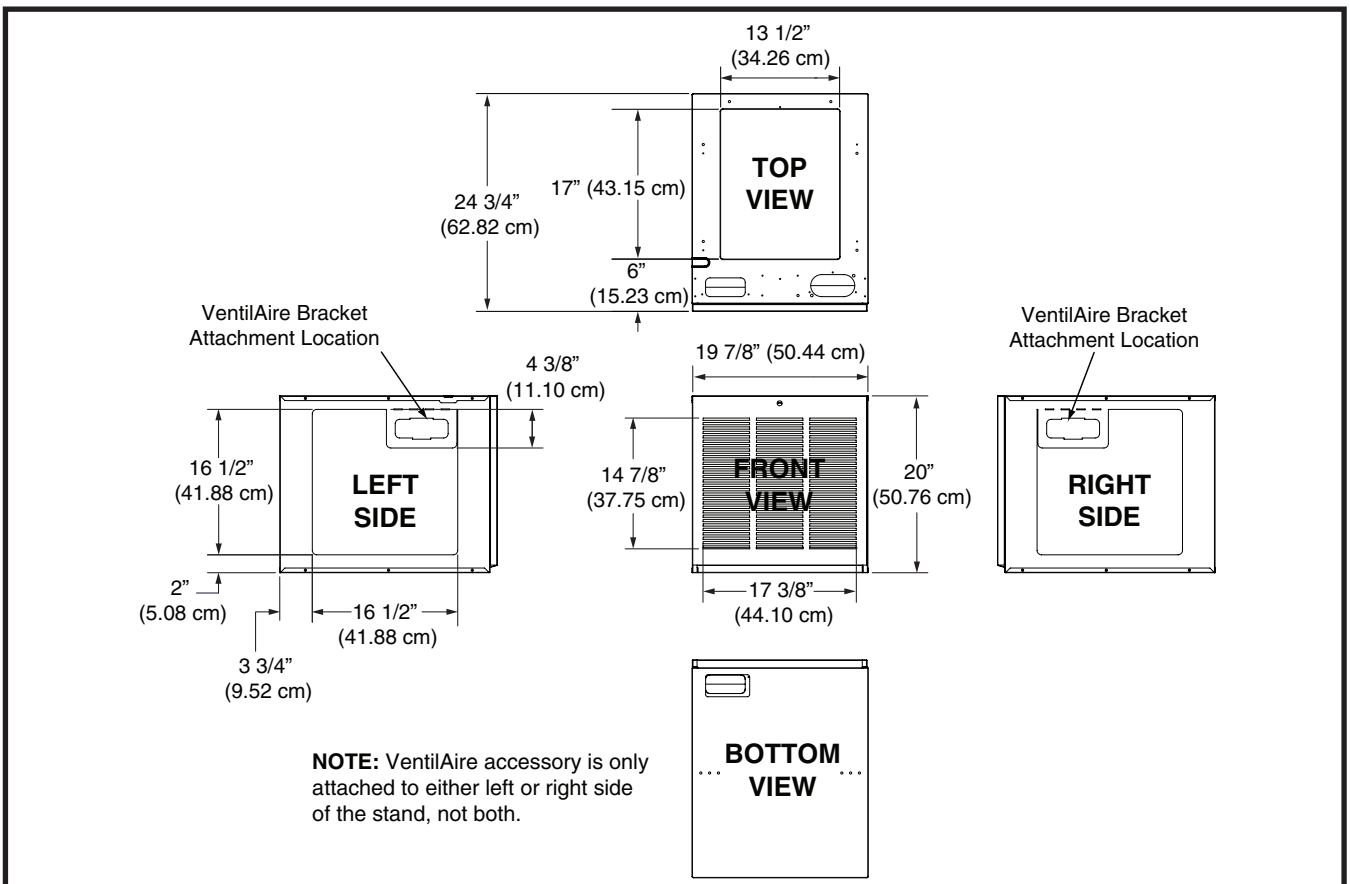

Figure 22. E7 Appliance Upflow Stand Dimensions
- The thermostat should be mounted about 5 feet (1.5 m) above the floor on an inside wall. DO NOT install the thermostat on an outside wall or any other location where its operation may be adversely affected by radiant heat from fireplaces, sunlight, or lighting fixtures, and convective heat from warm air registers or electrical appliances. Refer to the thermostat manufacturer's instruction sheet for detailed mounting information. See Figure 22 \(page 15\) for typical thermostat connections.
NOTE: Installation of at least a four-wire thermostat circuit is required. However best practice is to use five-wire for future addition of a heat/cool thermostat. Any unused thermostat leads must be properly capped. See Figure 22 \(page 15\) for various thermostat connections.